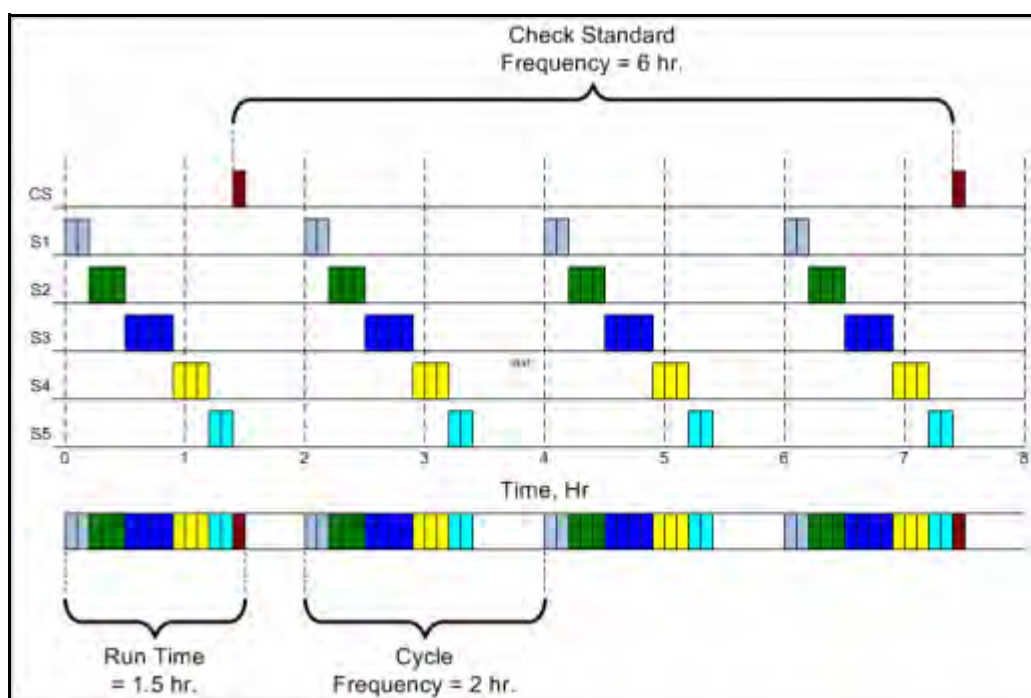

Figure 57: Operation with Five Streams and the Check Standard
To set the **Cycle Frequency**, the **Continuous** setting must be *Off*. In the example shown in Figure 57, the **Cycle Frequency** is set to one (1) hour. Only one Stream is enabled, so measurement of that stream starts every hour.
In the example shown in the following figure, Figure 57: Operation with Five Streams and the Check Standard, five Streams are enabled. The **Cycle Frequency** is set to two (2) hours, so measurement of the enabled Streams starts every two hours.
In the example shown in Figure 57, the **Run Time** is 1.5 hours. As the graph indicates, the **Run Time** must be less than the **Cycle Frequency**. If you select an incorrect **Cycle Frequency** that is less than the **Run Time**, the Analyzer will automatically display a notification message and will not start analysis.